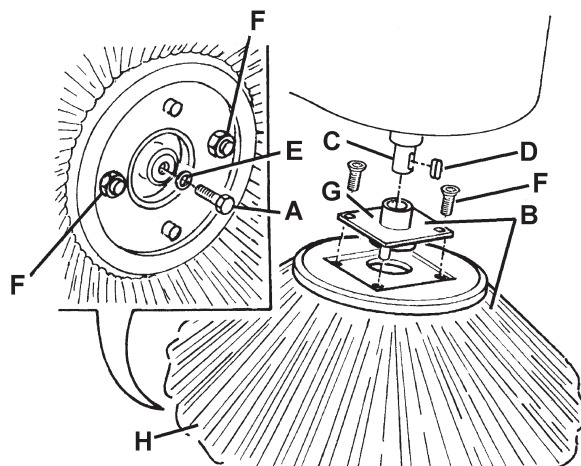

Figure 11
1. Drive the machine on a level ground and engage the parking brake with the pedal (75) and the lever (68).
2. Turn the ignition key (67) to "0".
3. Lift the side broom which has to be removed, with the lever (70) or (71).
4. Remove the screw (A, Fig. 11) inside the side broom, then remove the side broom (B) with the hub (B) by disengaging it from the shaft (C).
5. At the workbench, remove the two screws (F, Fig. 11) and separate the broom (H) from the hub (G).
6. Install the new side broom (H, Fig. 11) onto the hub (G), and tighten the screws (F).
7. Install the key (D), then install the new side broom with the hub (B, Fig. 11). Install the washer (E) and tighten the screw (A).